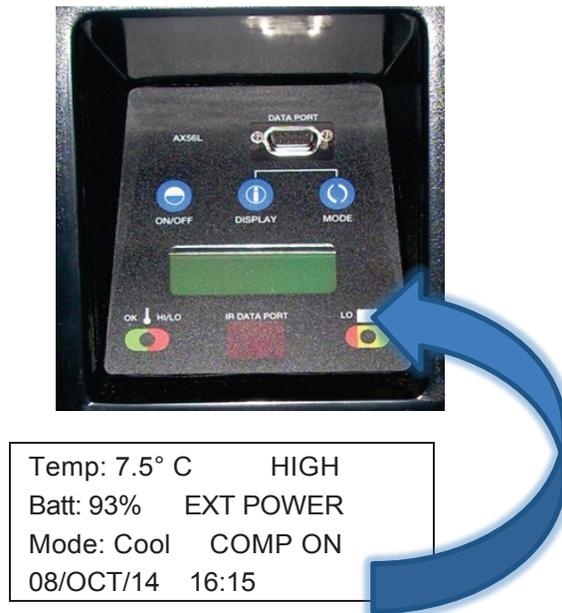

Figure 11. LCD Line 2 Battery Charge Level (93%) Example
1. If the unit is operating on internal battery power only, the unit will run and the second row of text on the LCD will display "Batt %". When operating on AC power, the unit will run and the second row of text on the LCD will display "Batt XX% EXT POWER." (Figure 11) This verifies that the AC power is connected.
5. **The AX56L must be started on AC power with the onboard batteries connected and allowed to operate and stabilize at preset temperatures before the payload is loaded in place. This ensures that the unit’s batteries are fully operational. Battery charge level is shown on the display (Figure 11). For optimum field performance, do not begin a portable mission if the battery voltage is below 13.5 volts.**